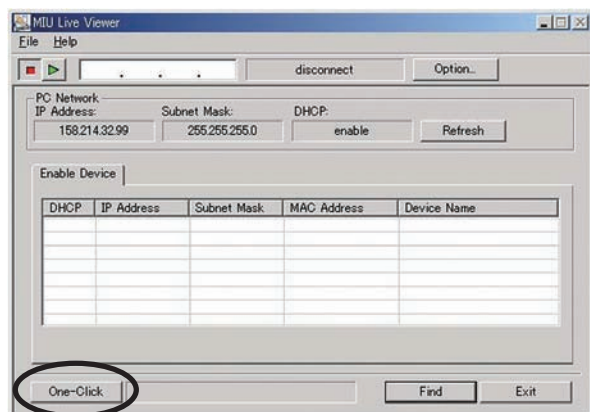

Fig. 2.2.a “MIU Live Viewer” initial window
3) Start up “MIU Live Viewer”. Window appears in fig. 2.2.a. (Refer to section 3.1 how to use “MIU Live Viewer”).
- 4) Click “One-Click” button in fig. 2.2.a. Projector is found. Then capture start button  is pushed and real time display is started automatically.
- 3) Start up “MIU Live Viewer”, then the window appears (shown in fig. 2.2.a).
- 4) Click “One-Click” button as shown in fig. 2.2.a. Then projector will be found and the capture start button  is activated then real time display is started automatically.